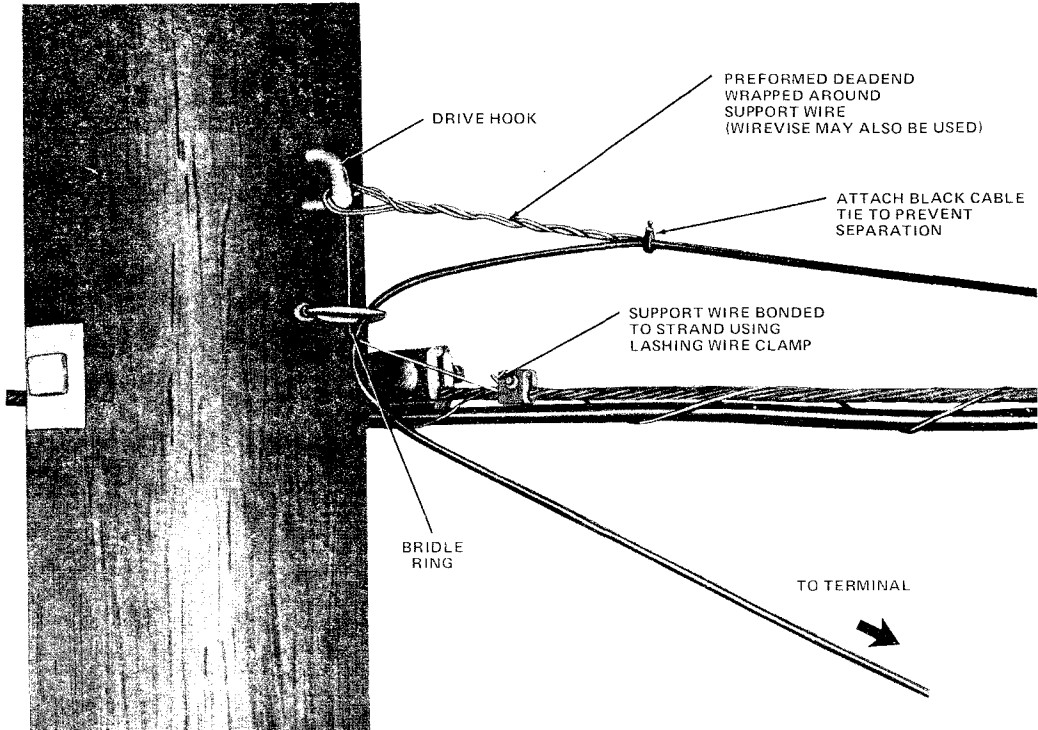

Fig. 11—Completed Pole Attachment
- (3) Cut the wire to the required length making an allowance for a 6-inch drip loop.
- (4) Cut the web and separate the support wire from the jacket to approximately 8 inches from the pole attachment.
- (5) Place a black plastic cable tie around the jacket and support wire at the point of separation to prevent further splitting of the web.
- (6) Cut the support wire at the required length allowing sufficient length for bonding to the cable strand.
- (7) Crush and strip the PVC jacket from the support wire back to the cable tie(s).
- (8) Install a DE-2506 dead end or a No. 5056B wirewise on the bare support wire and attach to pole attachment. Release and remove drop wire puller.
(9) Complete the pole attachment as shown in Fig. 11, 12, and 13.